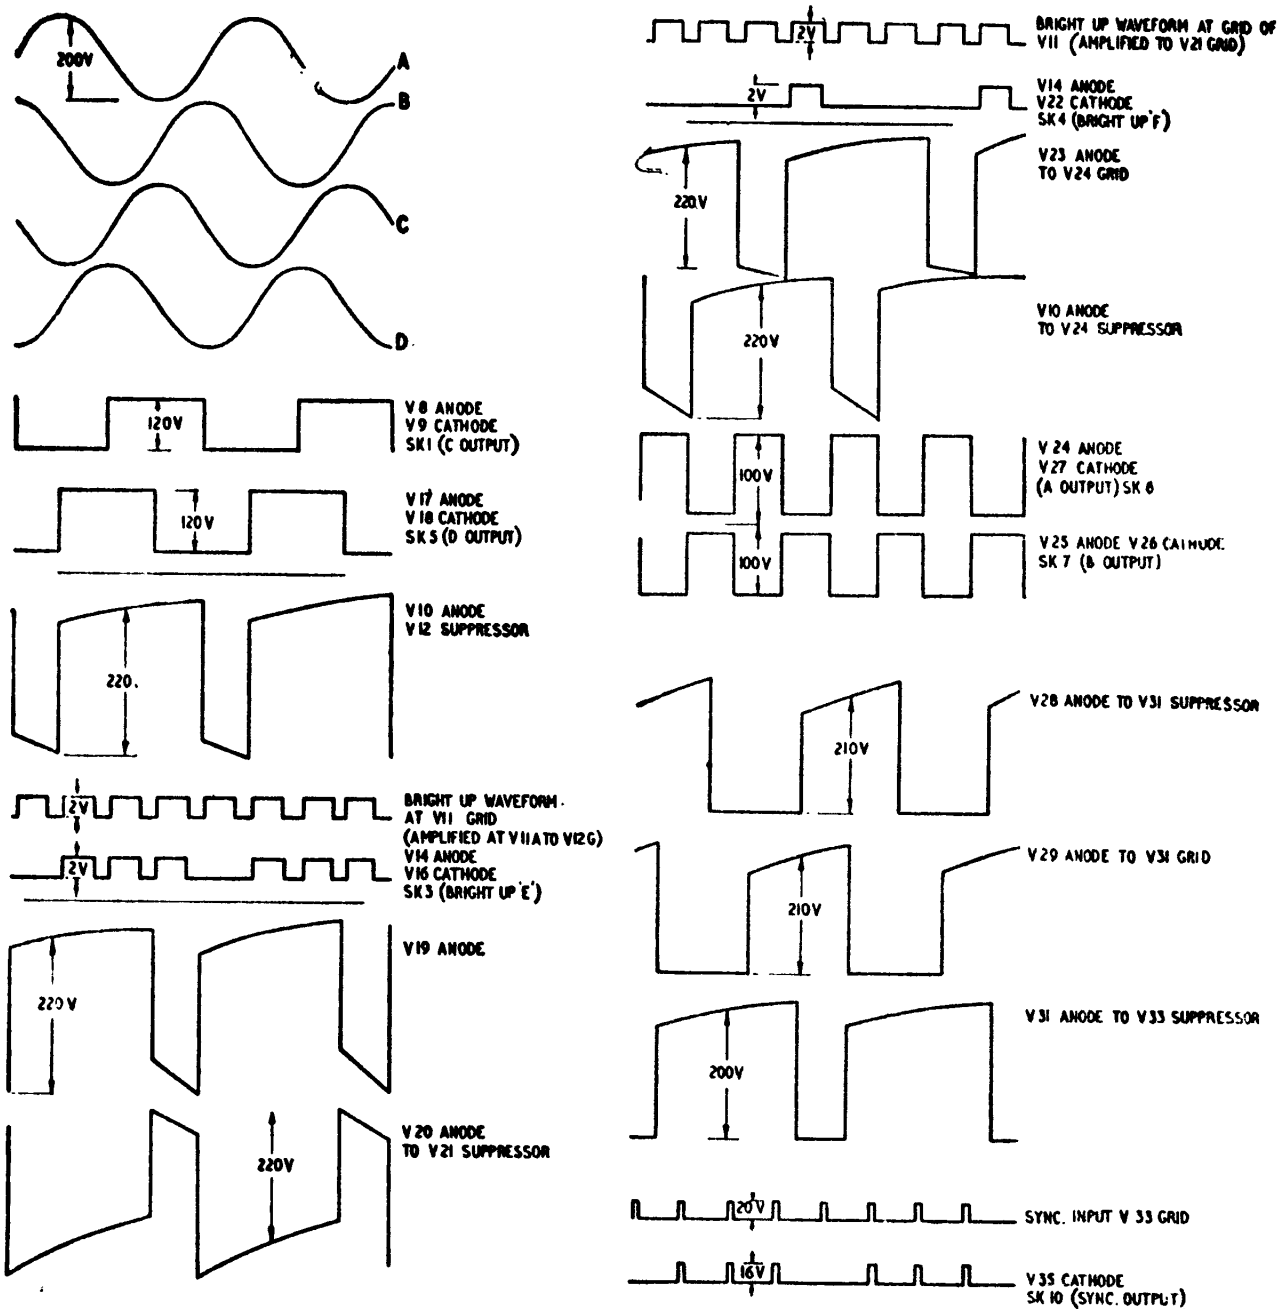

Fig. 1. Waveforms
3. Four 62.5 c/s sine-waves are fed from the capacity switch (radar Types 7 and 15) to this unit and are here combined in various "squarer" circuits to provide the required waveforms which are shown, idealistically, in fig. 1. Views of the unit are given in fig. 2 to 6 and the complete circuit in fig. 7.
6. The circuit arrangements can best be considered whilst tracing the production of the various waveforms shown, non-scaled, in fig. 1.